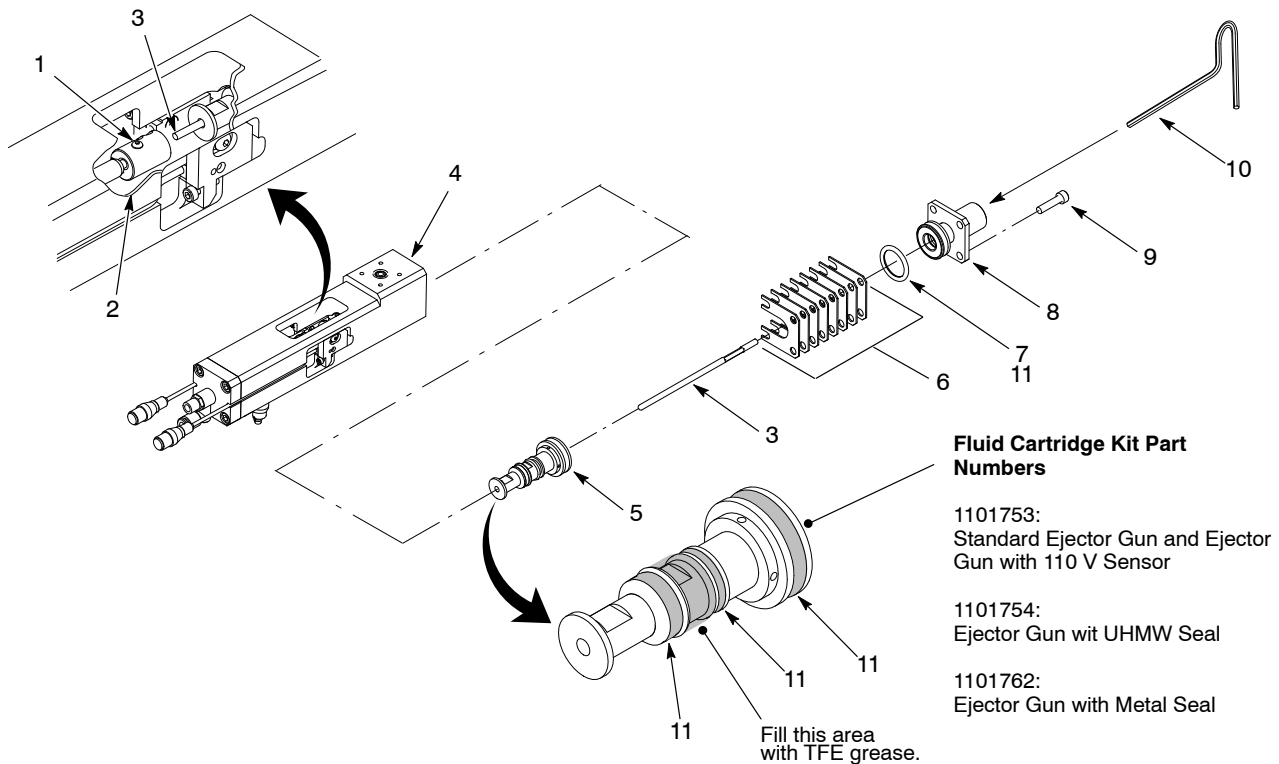

Figure 1 Fluid Cartridge Replacement
1. See Figure 1. Loosen the coupling screws (1).
2. Cycle the gun to disconnect the needle (3) from the coupling (2).
3. Using a flat tip screwdriver, push down on the needle (3). Remove the needle from the nozzle adapter (8) using needle nose pliers.
4. Remove the screws (9) securing the nozzle adapter (8) and spacers (6) to the gun body (4). Check the nozzle o-ring (7) for damage and replace if necessary.
5. Remove the fluid cartridge (5) from the gun body (4).
1. See Figure 1. Lubricate the seals and the area noted on the new fluid cartridge (5) with TFE grease (11). Insert the fluid cartridge into the gun body (4).
2. Apply threadlocking compound to the screws (9). Lubricate the o-ring (7) with TFE grease (11).
3. Install the spacers (6) and nozzle (8) using the screws (9). Tighten the screws to 9.7 ± 1 ft-lb (13.2 ± 1.3 N•m).
4. Carefully insert the needle (3) through the nozzle (8). Using a small diameter hex wrench (10), push on the needle until it bottoms out into the coupling (2).
5. Tighten the coupling screws (1) to 7 in.-lb (0.75 N•m).